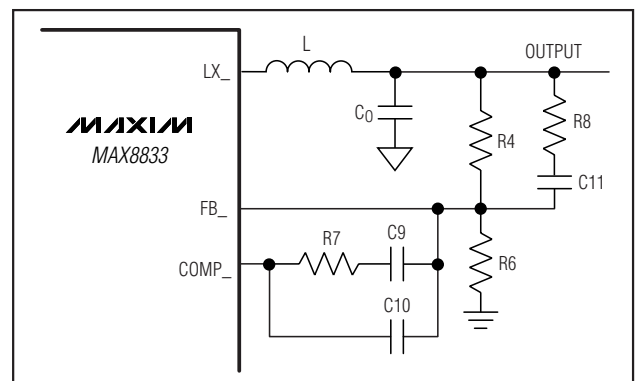

Figure 4. Type III Compensation Network
The output voltages for regulator 1 (with REFIN connected to SS1) and regulator 2 are set with a resistor voltage-divider connected from the output to FB\_ to GND as shown in Figure 4. Select a value for the resistor connected from output to FB\_ (R4 in Figure 4) between 2kΩ and 10kΩ. Use the following equations to find the value for the resistor connected from FB\_ to GND (R6 in Figure 4):
The high-switching-frequency range of the MAX8833 allows the use of ceramic output capacitors. Since the ESR of ceramic capacitors is typically very low, the frequency of the associated transfer-function zero is higher than the unity-gain crossover frequency,  $f_{\text{c}}$ , and the zero cannot be used to compensate for the double pole created by the output filtering inductor and capacitor. The double pole produces a gain drop of 40dB and a phase shift of 180° per decade. The error amplifier must compensate for this gain drop and phase shift to achieve a stable high-bandwidth closed-loop system. Therefore, use type III compensation as shown in Figure 4. Type III compensation possesses three poles and two zeros with the first pole,  $f_{\text{P1\_EA}}$ , located at 0Hz (DC). Locations of other poles and zeros of type III compensation are given by: